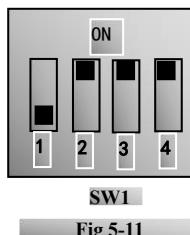

Fig 5-11
(6) There is a red four-digit coding switch SW1 near the control terminal block of above 37 kW inverter, as shown in Figure 5-11. The function of coding switch is to select the input range (0 ~ 5V/0 ~ 10V/0~20mA) of analog input terminal AI1 and AI2. In actual application, select the analog input